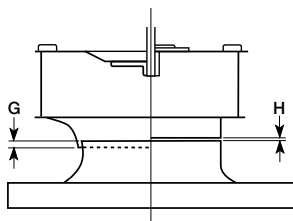

Figure 13
1. Check all fasteners and setscrews for tightness. The wheel should rotate freely and be aligned as shown in Figure 13.